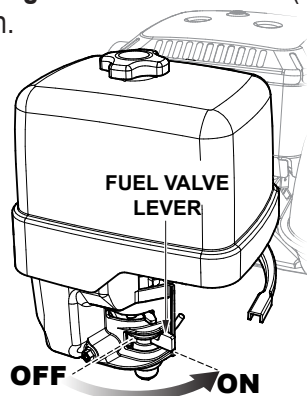

Figure 9. Engine Fuel Valve Lever (ON)
2. Place the **engine fuel valve lever** (Figure 9) in the **ON** position.